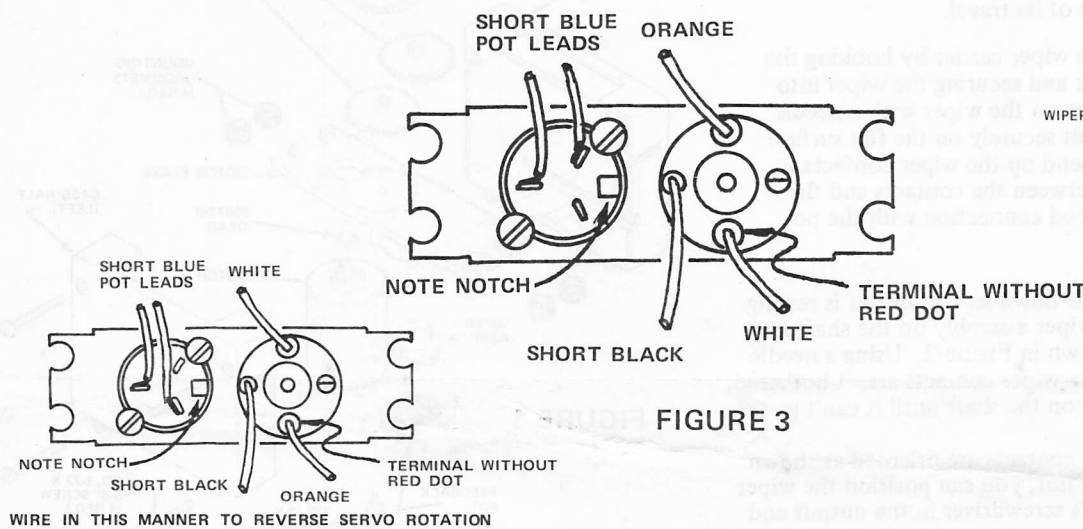

FIGURE 3
6. Take the feedback pot out of its wrapping--lubrication has already been applied, so don't wipe the pot element or handle it with your fingers. Slip the pot into its seat on the motor plate and check that the wiper contacts are coming in contact with the pot element. Install the feedback pot using two No. 2 X 3/16" self tap screws--orient the notch on the pot as shown in Figure 3 of the servo instructions. Don't overtighten the screws, just make sure the pot doesn't rotate and is seated properly.
The following steps refer to Figure 3 which shows the motor installed. Do not install until Step 23.
19. () Prepare the potentiometer element by clipping the lugs to 1/16 inch length and bend flat as shown in Figure 3.
20. () Thread the three motor leads through to hole in the PC board and solder the short wires to the correct pot terminals and motor terminals EXACTLY as shown in Figure 3.
7. (✓) Secure the pot into place using two 2-56 x 1/4" bolts (not shown). Position it as shown in the drawing. To double check pot orientation, the "arrow" on the pot should point toward the motor as shown in Figure 3 of the servo amplifier instructions. Don't overtighten the pot retention screws.
8. (✓) Prepare the pot leads by clipping the lugs to 1/16" length and bend flat as shown in Fig. 3.
9. (✓) Thread the short blue pot leads through the hole in the PC board and solder the pot leads and the motor leads to the terminals as indicated in Fig. 3. Do not place the motor in position yet.